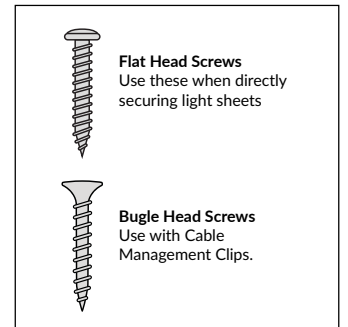

Figure 20
- **Warning:** only use flat head screws when inserting fasteners directly through the light sheet. Bugle head screws may be used with Cable Management Clips (figure 20).